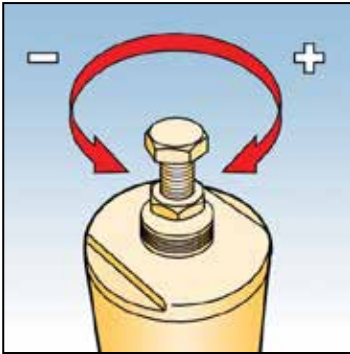

Fig. 4
11. To bring the regulator into service, remove top cap, loosen lock nut, turn adjusting screw anticlockwise (-) enough to release pressure on loading spring. See Fig. 4.